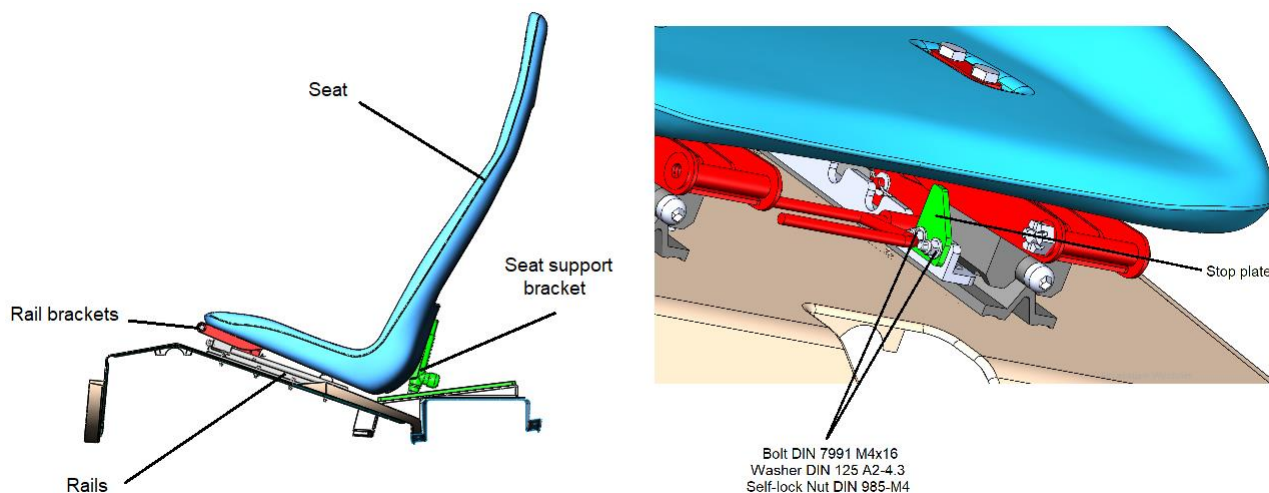

Fig. 25-00-1
B. Seat Removal and Installation (Fig. 25-00-1)